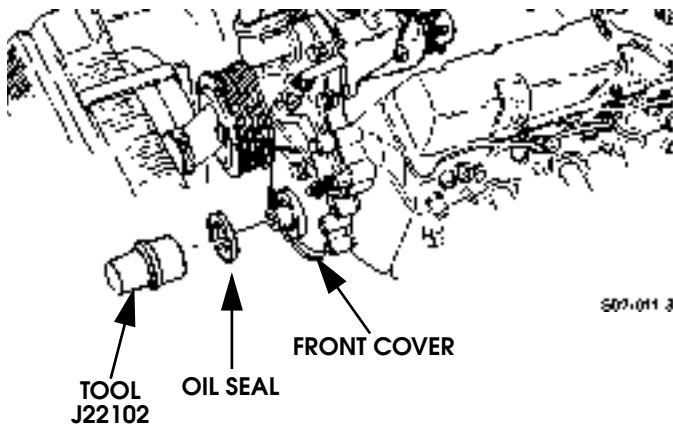

Figure 2-19: Front Cover Oil Seal Location
2. Remove oil seal front cover with tool J-22102 or pry tool (Figure 2-19).